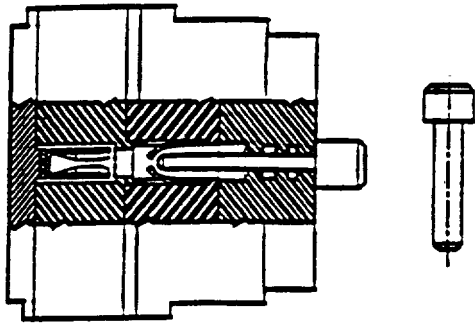

Figure 16. End Seal Plugs
30. **END SEAL PLUGS (SEALING PLUGS).** End seal plugs (Figure 16) are the plastic devices used to seal unused cavities in the grommet of a TJS component. Use Table 3 for the correct end seal plug; to fill cavities left in the grommet. End seal plugs should be installed in all unused contact holes in the grommet to prevent
- e. Insert the appropriate sealing plug from Table 3 in all unwired cavities in accordance with Figure 16.